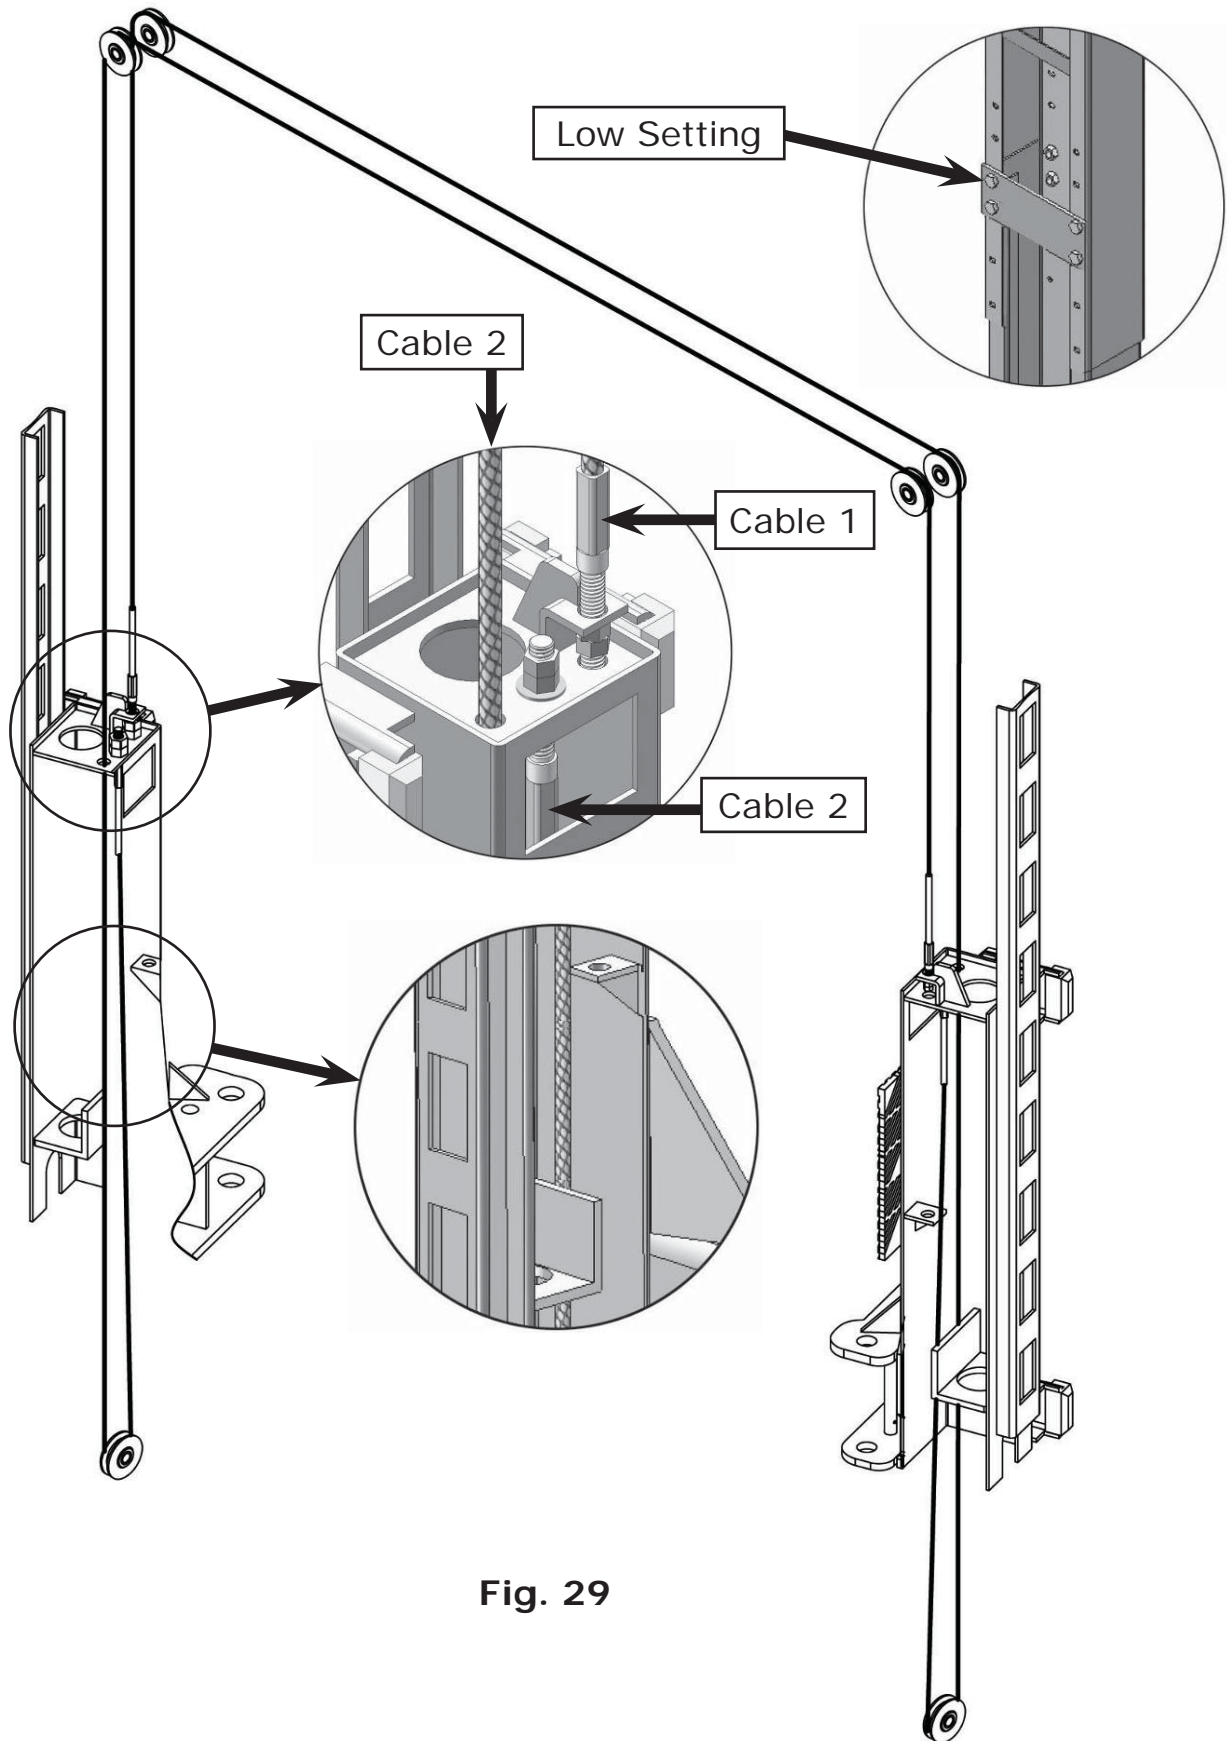

Fig. 29
2. **Low setting cable connection.** For ceiling heights between 4200mm (165 3/8") to 4500mm (177 1/8") (See Fig. 29).